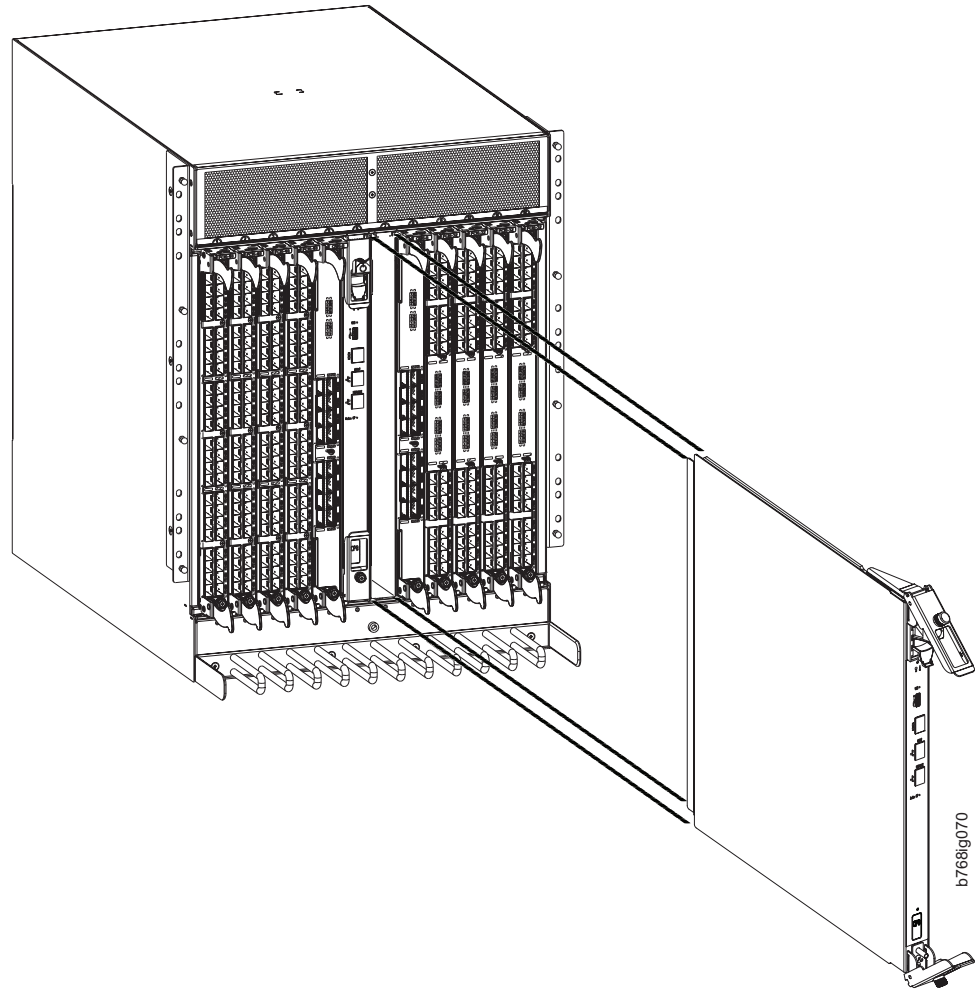

Figure 31. Removing the control processor (CP8) blade
8. Lever open both ejector handles simultaneously to approximately 45 degrees and pull the CP blade out of the chassis (see Figure 31 on page 89).